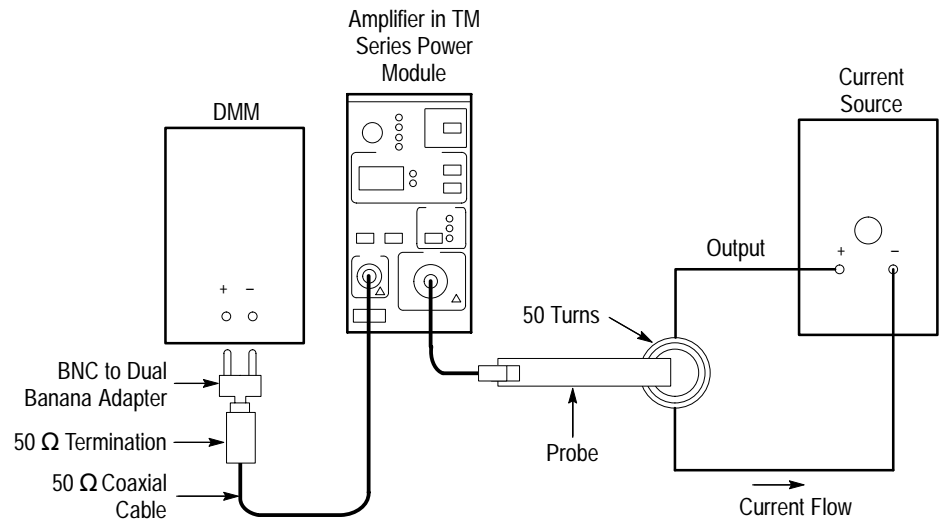

Figure 17: DC Gain Accuracy Test Setup for A6303/A6303XL
2. Connect the current loop to the current source as shown in Figure 17.
3. Clamp the current probe around the one conductor of the current loop. (See Figure 17 on page 51.) Check that the arrow-shaped indicator on the probe points away from the current source.